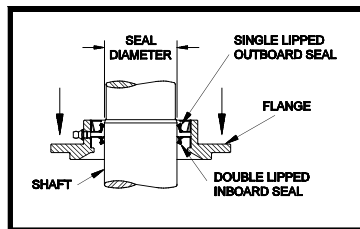

Figure 6.2.4—Placement of Seal Carrier Assembly onto Shaft
4. When the seal carrier is piloted on the shaft pilot, seat the seal carrier by slowly pressing down on the flange; reference Figure 6.2.4.